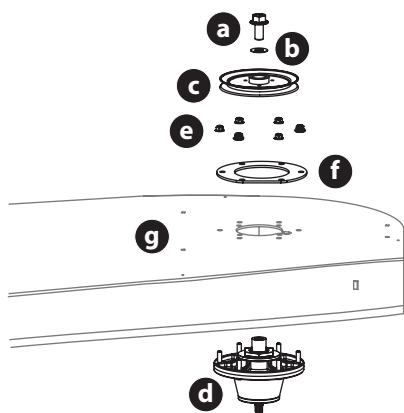
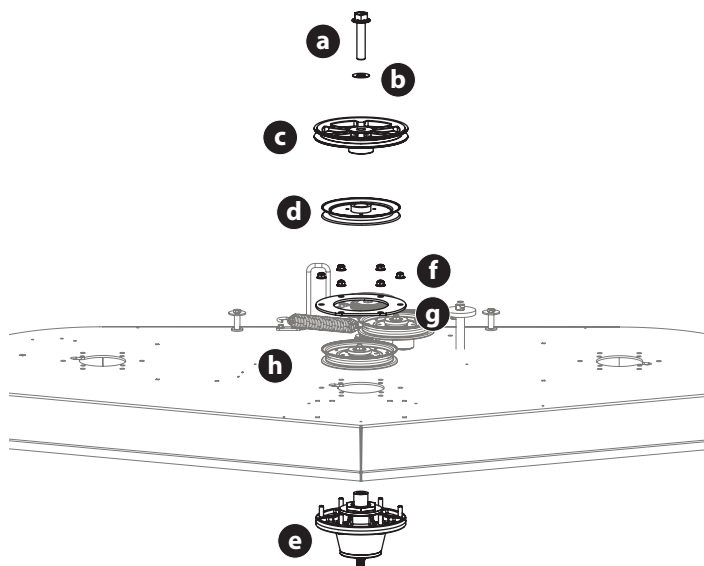

Fig. 47
Fig. 48
6. To remove the left and right spindle assemblies (Fig. 47):
- b. Remove the six (6) flange lock nuts (e) securing the left and right spindle assemblies (d) and the support plates (f) to the deck shell (g).
7. To remove the center spindle assembly (Fig. 48):
- b. Remove the six (6) flange lock nuts (f) securing the center spindle assembly (e) and the support plates (g) to the deck shell (h).
9. Reverse the process to install the spindle assembly. When installing the new spindle assembly be sure to install the hardware exactly as shown (Fig. 47 or Fig. 48). Torque the hex flange bolts to 250 ft-lbs (339 N-m) and the flange lock nuts to 21-32 ft-lbs (28-43 N-m).